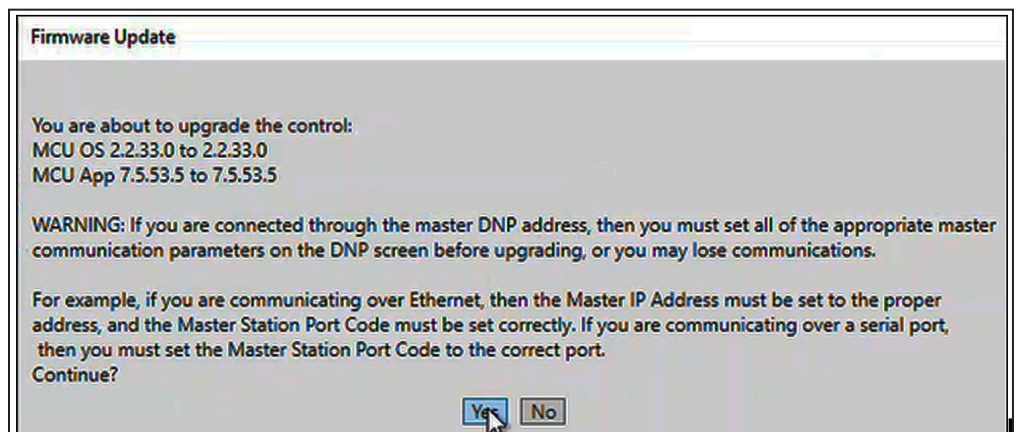

Figure 21. The Firmware Update dialog box.
STEP 10. In the Firmware Update dialog box, click on the **Yes** button. See Figure 21. Selecting “No” will end the **Update** process.